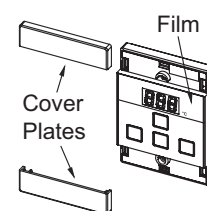

Fig. 4
7. Remove protective film from the water controller face and replace the cover plates (Fig. 4).